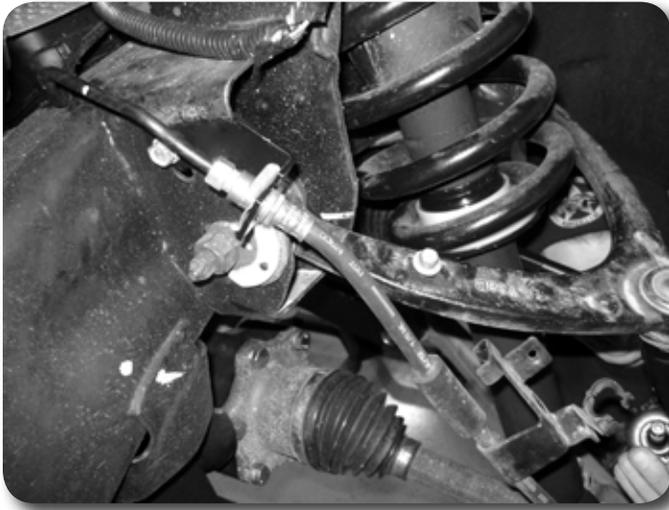

Figure 36
67. Attach the provided brake line bracket to the upper control arm mount using the original bolt. **Figure 36** Leave hardware loose.